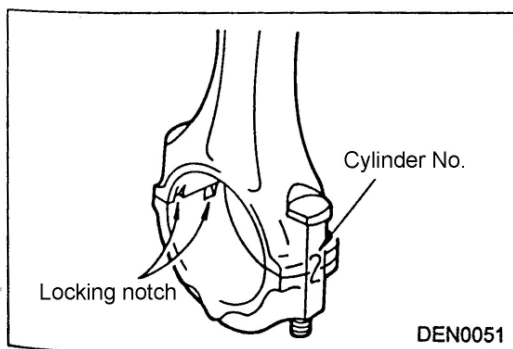

Fig.4-59
(6) CONNECTING ROD CAP INSTALLATION
- a Aligning the marks made during disassembly, fit the bearing cap onto the connecting rod. If the connecting rod is new and has no index mark, ensure that the bearing locking notches are both on the same side, see Fig.4-59.